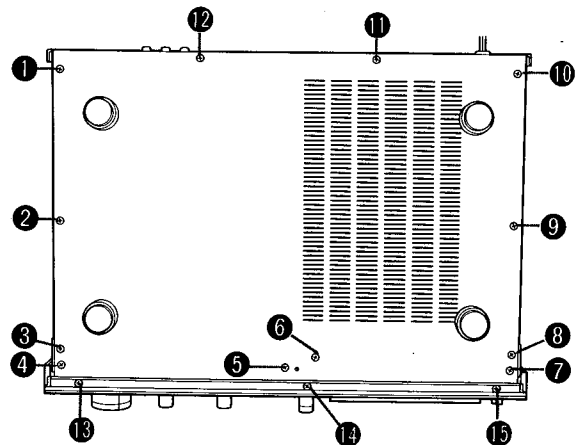
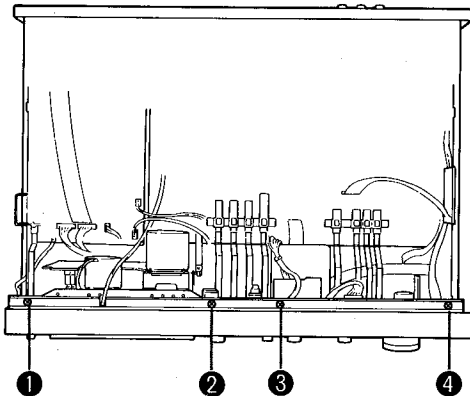

Fig. 2
Fig. 3
Remove screws ① to ⑫ in Fig. 2, then remove the cabinet bottom.
5. Remove screws 13 to 15 in Fig. 2 and screws 1 to 4 in Fig. 3, then pull the front panel slightly forward.